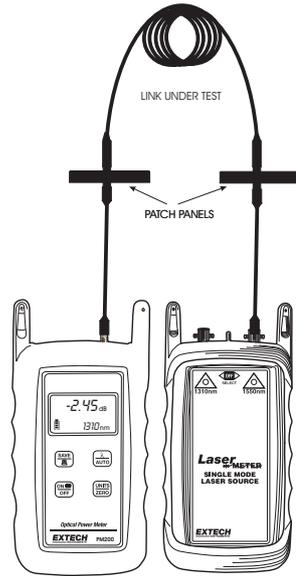

Figure 4
- The PM200 will show the amount of loss in the link (in dB). Figure 4 shows a power level of -2.45 dB. This means that the optical power being received by the meter is 2.45 dB below the optical reference, which is the same as saying there is 2.45 dB of optical loss in the link.